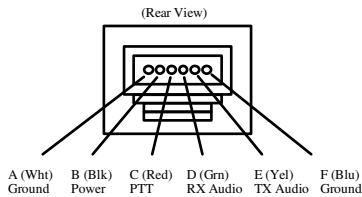

Figure-3 Radio Connector
Warning: Some RJ-11 cables do not have the wires arranged in the proper order or may have the connector installed backwards! Refer to Figure-3 below for the proper connector and cable layout.
The TM-1 attaches to the radio through a 6 wire RJ-11 connector on the rear of the unit. We have supplied a length of cable for this purpose with your TM-1. The cable already has the RJ-11 connector installed in accordance with Figure-3. If you intend to use a cable other than the one that we supplied, make sure it is configured *exactly* as shown in Figure-3 and read the *Warning* about these connectors. You
The radio interface is terminated with standard 6-wire RJ-11 connector. Note that we have identified the various lines with letters rather than the customary pin numbers to be consistent with the identifiers used on our Mic Adapter board. Figure-3 shows both the pin letter designations and the corresponding wire colors. The signals on this interface function as follows:
- 2) If you are using a radio cable that was not supplied by Tigertronics, be sure to verify that the connector orientation is correct using Figure-3. It is extremely common for the connector to be installed backwards!